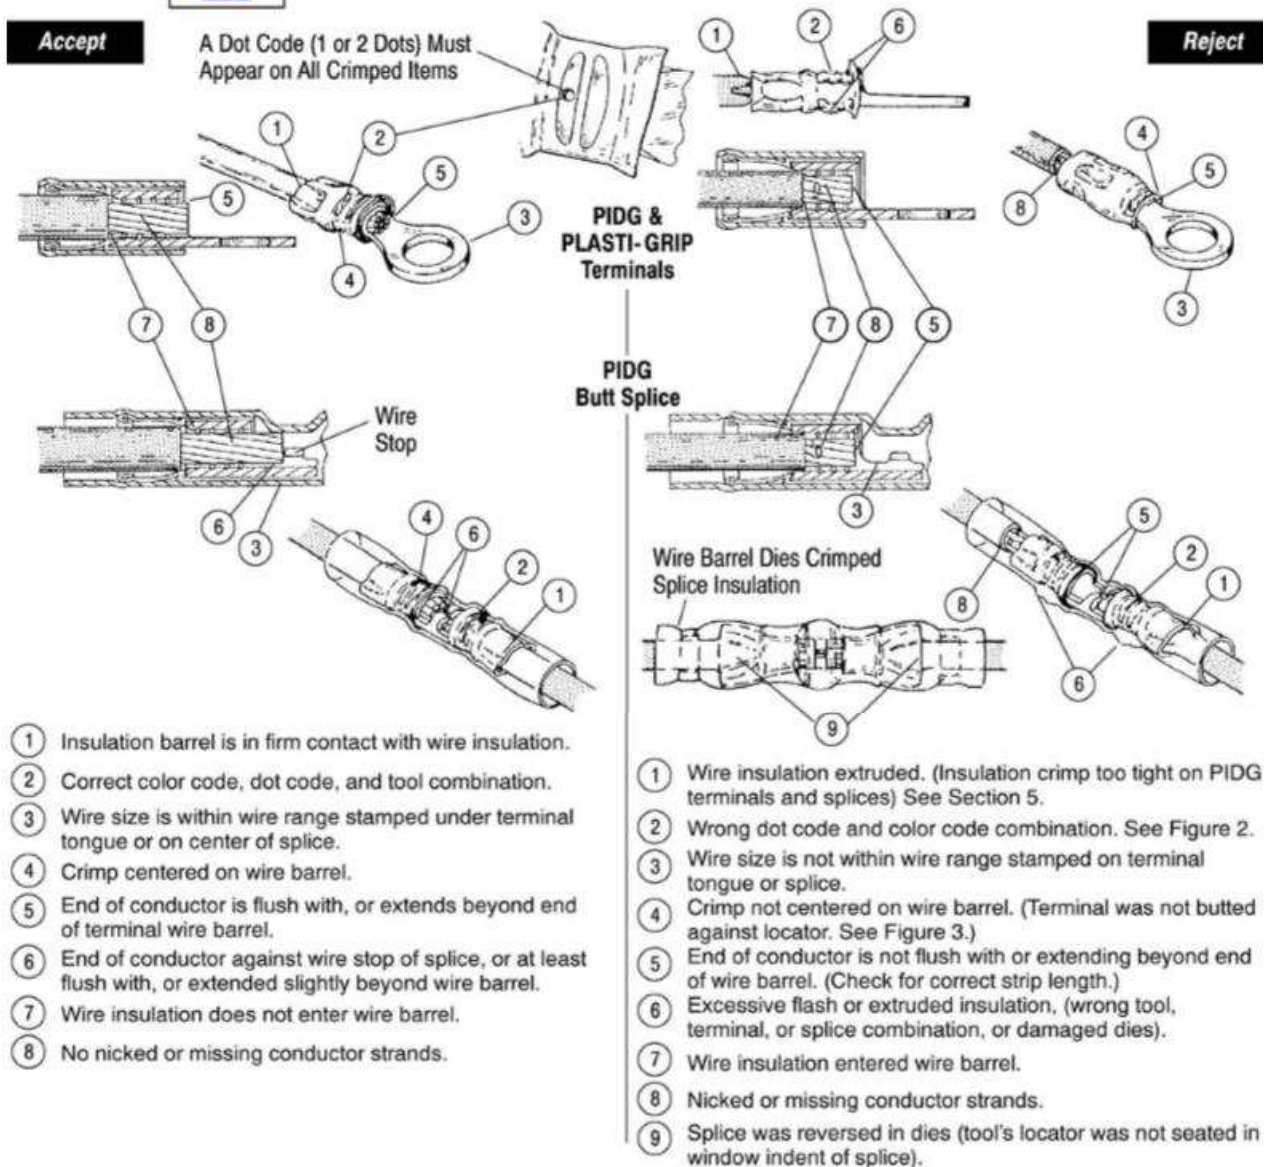
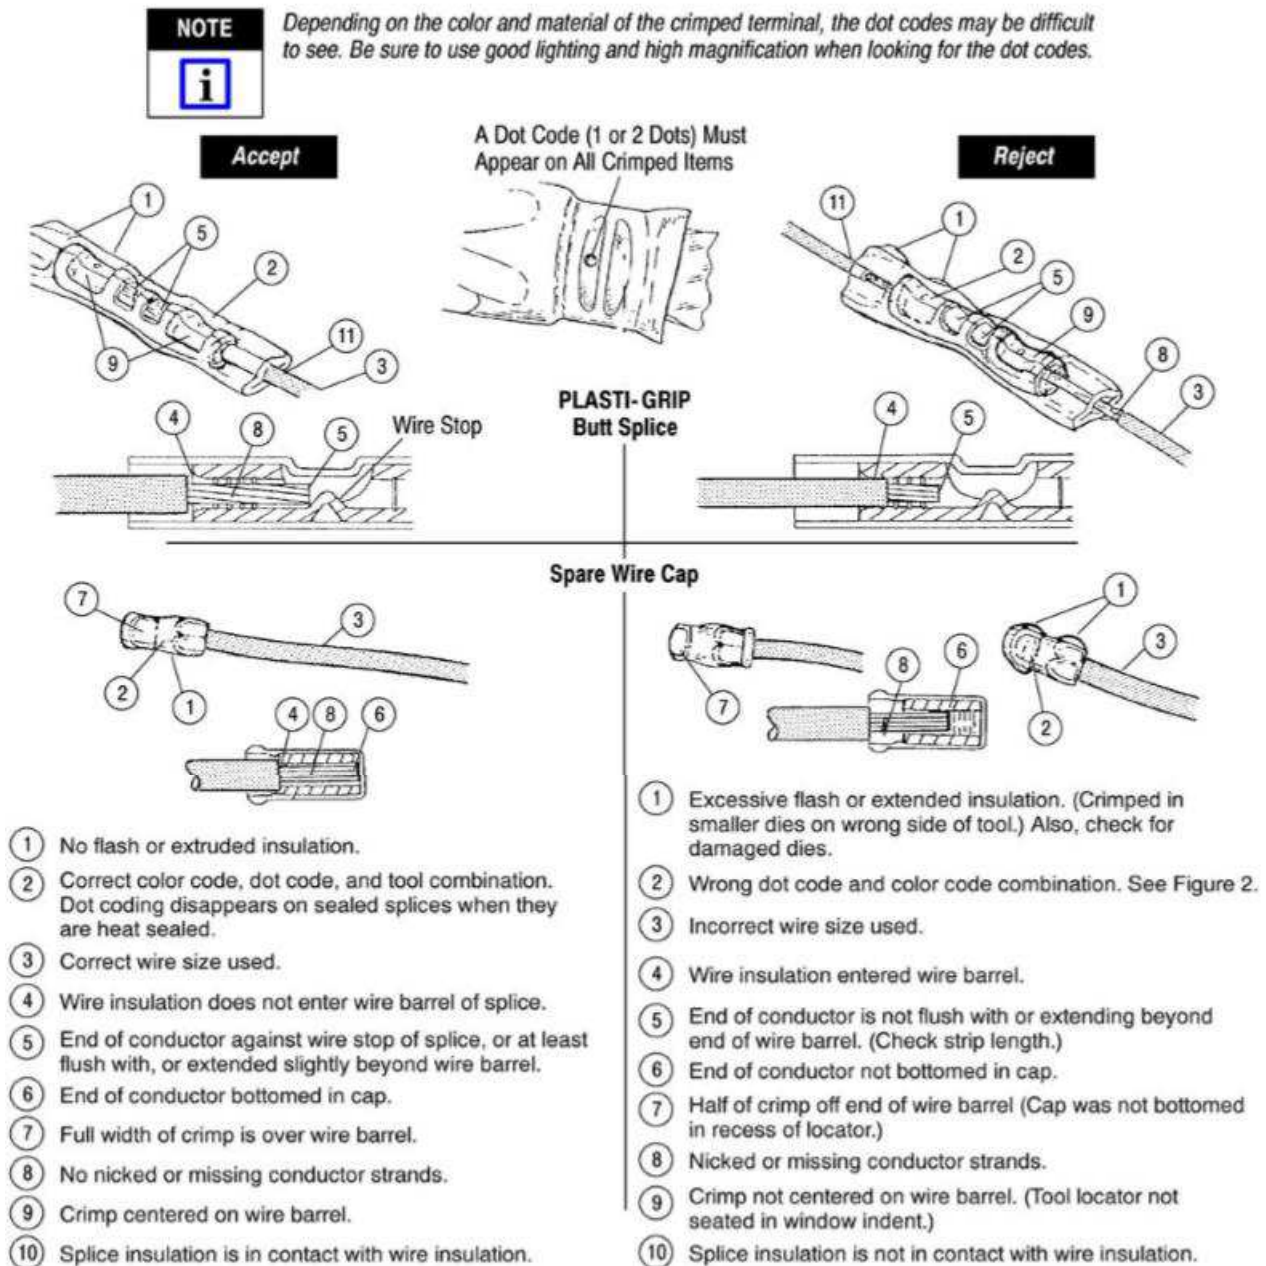

Figure 6
Figure 7
8. Refer to Section 6 and Figure 6 or Figure 7 for terminal or splice "Crimp Inspection" procedure.
8. Refer to Section 6 and Figure 7 wire cap crimp inspection procedure.
Inspect crimped terminals, splices and spare wire caps by checking the features described in Figure 6 or Figure 7, as applicable.